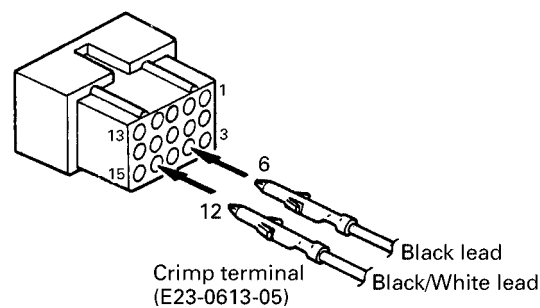

Fig. 4-3
3. Reinsert the terminal with the black and white stripe lead into hole number 12, and the terminal with the black lead into hole number 6. (Fig. 4-3)